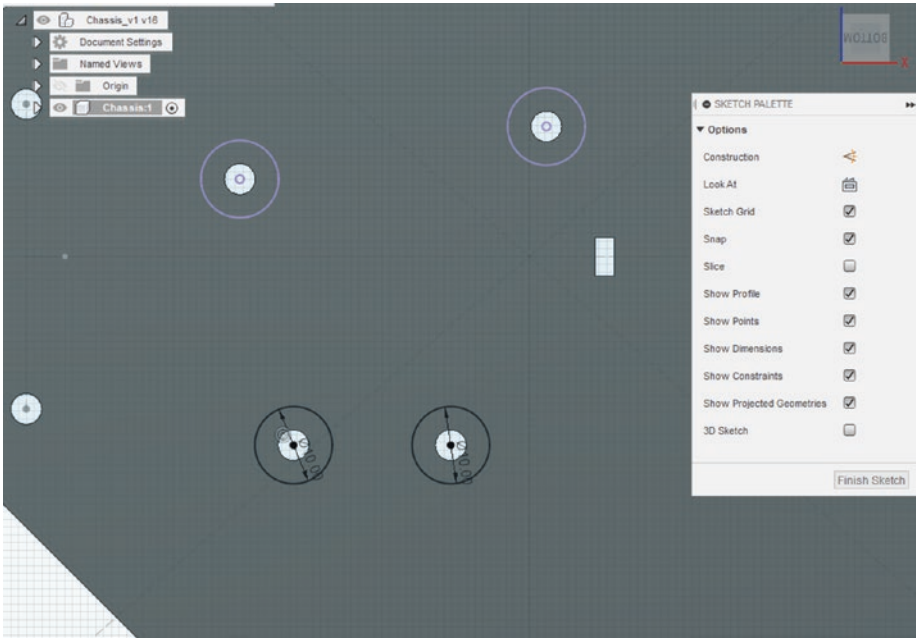

Figure 6-59. Add two more holes that will hide the screws from view
16. Switch to the bottom of the chassis and create a sketch around the holes you just extruded for the H-bridge. 10mm holes will work. See Figure 6-59.